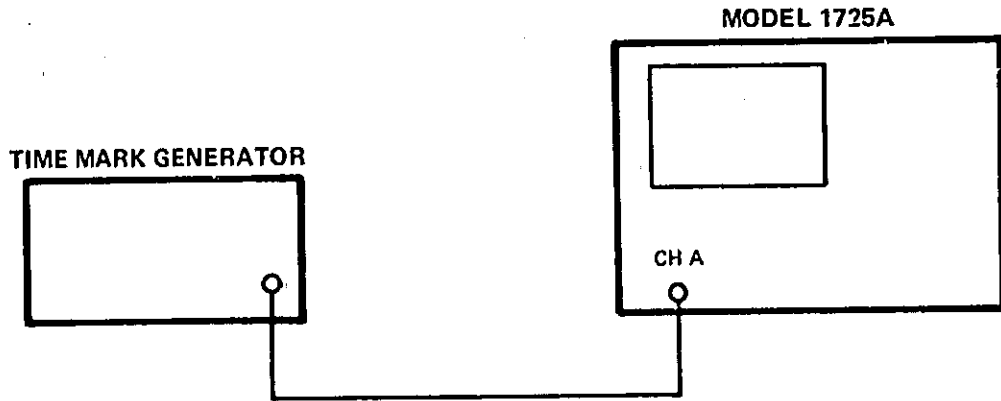

Figure 5-8. Main Sweep Time Test Setup
a. Connect equipment as shown in figure 5-8.